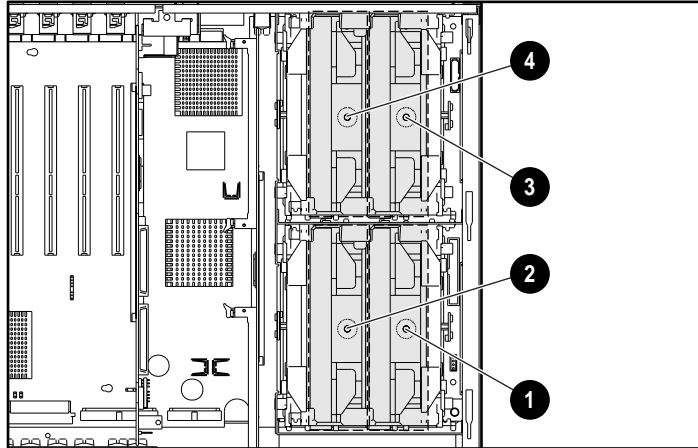

Figure 4-2. Processor locations
1. To add a processor, identify the processor locations as shown in Figure 4-2.